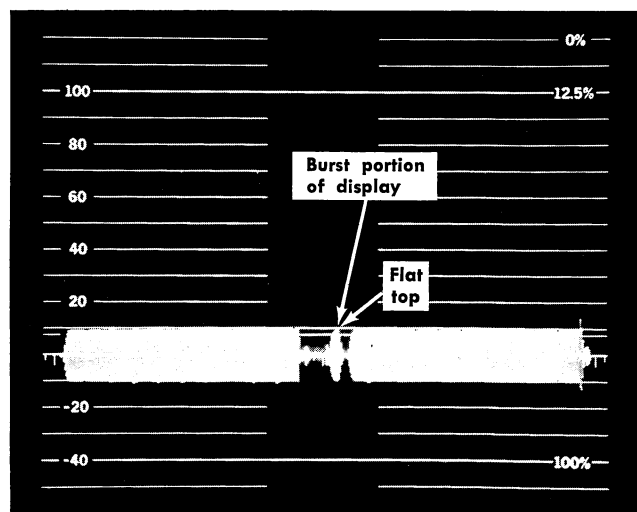

Fig. 5-9. Correct CHROMA response filter display of a linearity staircase signal modulated with 3.58 MHz.
i. CALIBRATION ADJUST—L47 for maximum deflection of the displayed signal envelope (see Fig. 5-9), then adjust L45 to return to the amplitude of the signal envelope to the same level as observed in step 18-g. Repeat L47 and L45 adjustments to compensate for interaction.